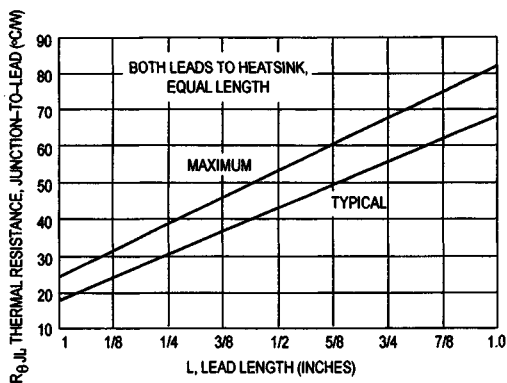

Figure 4. Steady-State Thermal Resistance
Step 3. Find $P_F(AV)$ from Figure 4. **Read $P_F(AV) = 0.5 \text{ W}$